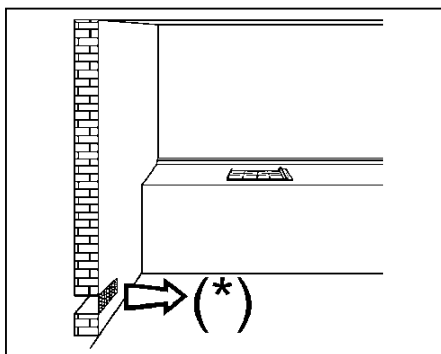
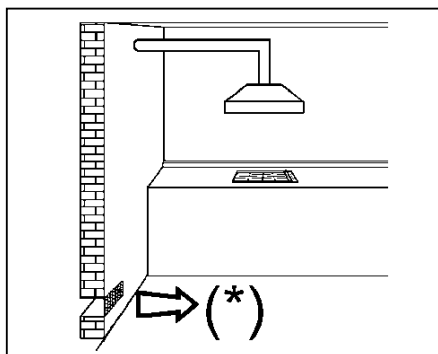
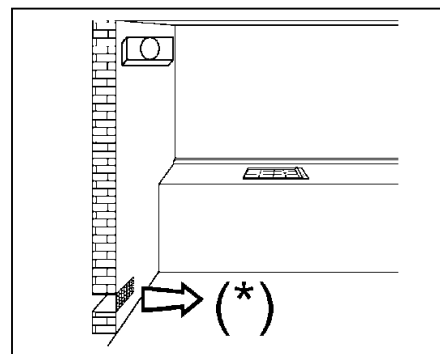

FIG. 3
FIG. 4
FIG. 5
- use of a gas cooking appliance produces heat and moisture in the room in which it is installed. The room must therefore be well ventilated by keeping the natural air vents clear (fig. 3) and by activating the mechanical aeration device (suction hood or electric fan fig. 4 and fig. 5).